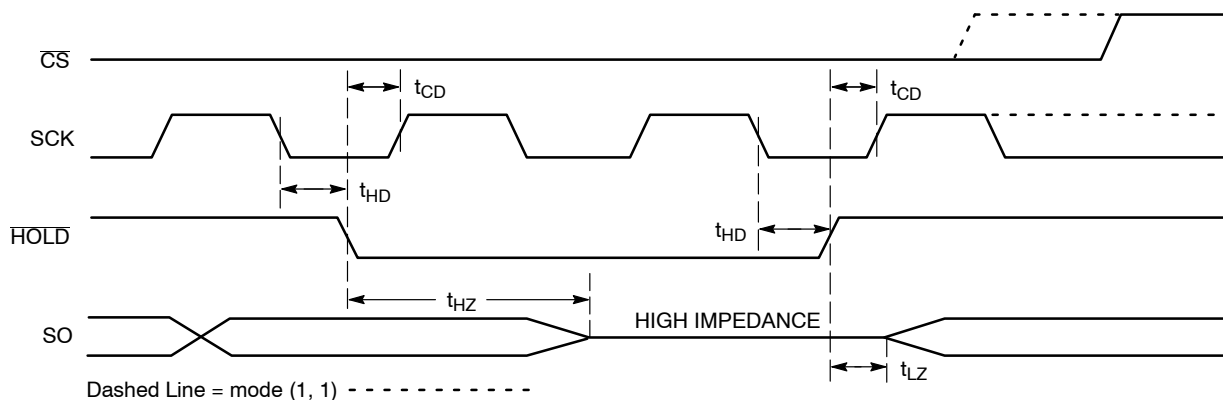

Figure 11.  $\overline{\text{HOLD}}$  Timing
The  $\overline{\text{HOLD}}$  input can be used to pause communication between host and CAT25010/20/40. To pause,  $\overline{\text{HOLD}}$  must be taken low while SCK is low (Figure 11). During the hold condition the device must remain selected ( $\overline{\text{CS}}$  low). During the pause, the data output pin (SO) is tri-stated (high impedance) and SI transitions are ignored. To resume communication,  $\overline{\text{HOLD}}$  must be taken high while SCK is low.